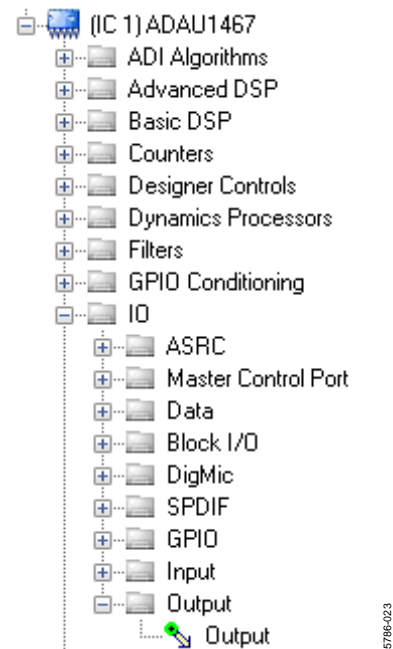

Figure 23. **Output** Block Selection
- i. From the (IC1) ADAU1467 > **IO** > **Output** folder, click **Output** (see Figure 23) and drag it into the project space to the right of the toolbox.